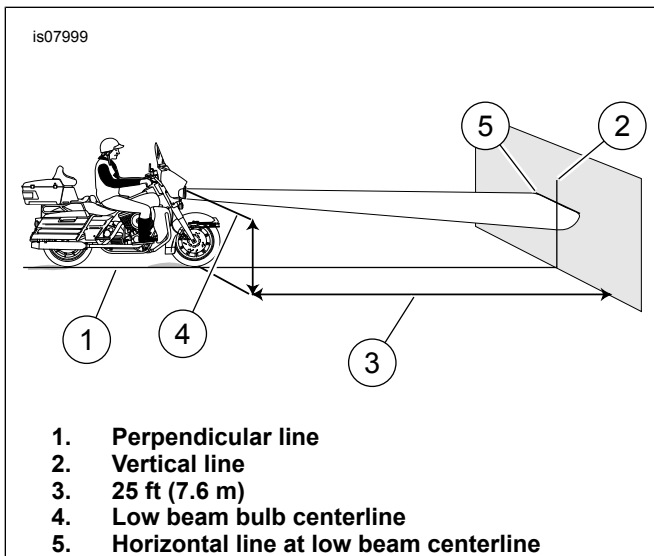

Figure 1. Headlamp Alignment: LED Type
4. See Figure 1. Park the motorcycle on a line (1) perpendicular to the wall.
6. Draw a vertical centerline (2) on the wall.